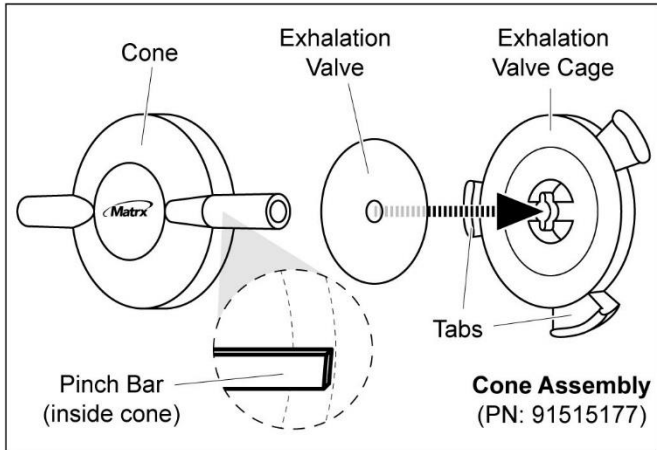

Figure 7. Assembling the Cone
- While immersed, scrub the scavenging cone system using a soft bristles nylon brush until visible soil is removed. If necessary, you can detach the cone from the cage by bending the pinch bar back and turning clockwise (see Figure 7).
1. Attach the exhalation valve to the exhalation valve cage (see Figure 7).